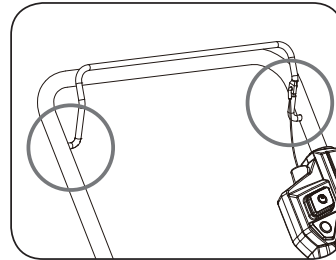

Figure 13
1. Lubricate pivot points on the blade and drive controls at least once a season with light oil. These controls must operate freely in both directions. (See **Figure 13**)